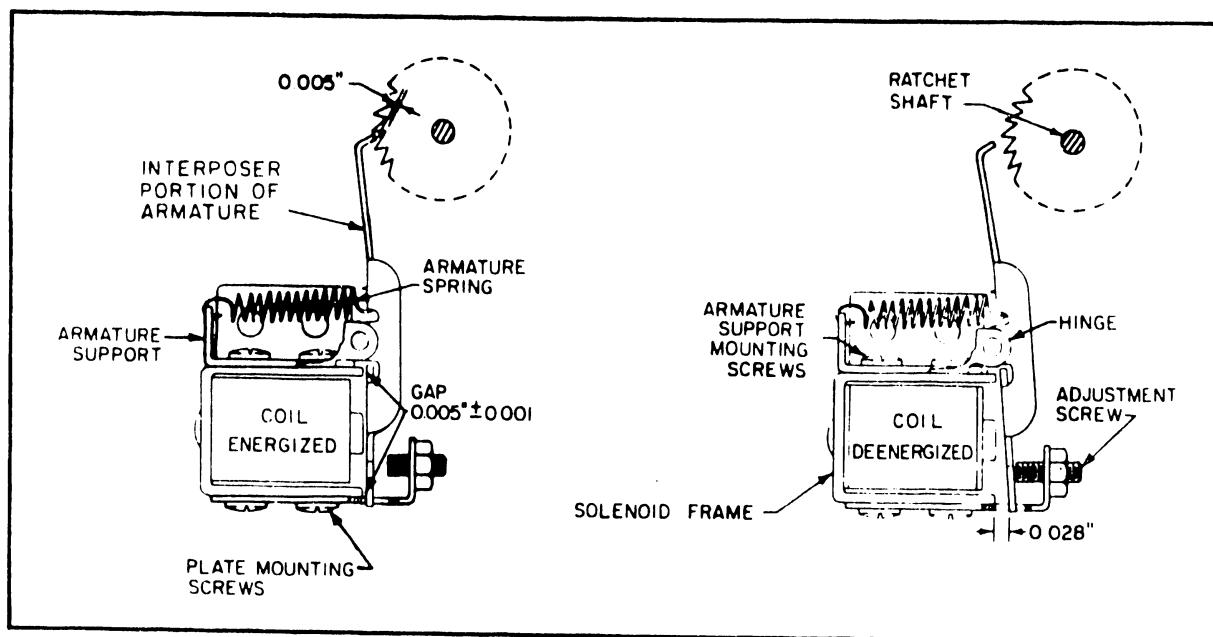

Figure 3.11 Forward Feed Solenoid
time (zero degrees), the lower portion of the solenoid armature is pulled against the solenoid core and the interposer portion above the armature pivot point, see Figure 3.11, moves toward the ratchet gear.
2. Check the gaps by electrically energizing the solenoid, or by pressing the armature against the solenoid. Do not apply any excessive force. Gap width should be 0.005 ± 0.001 inch as shown in Figure 3.11. If an adjustment is required, loosen the top and/or bottom armature or plate in such a manner that the specified gap is obtained. Measure the gap only with a non-magnetic feeler gage. Tighten all screws securely.
5. Loosen the solenoid mounting screws and pull the solenoid toward the rear of the punch (away from the ratchet shaft) until the rear mounting screw rests on the edge of the enlarged rear mounting hole. Then swing the solenoid toward the ratchet until the interposer portion of the armature leaves a gap between its tip and the outer edge of the adjoining ratchet gear tooth of 0.005 inch. The gap is shown in Figure 3.11.